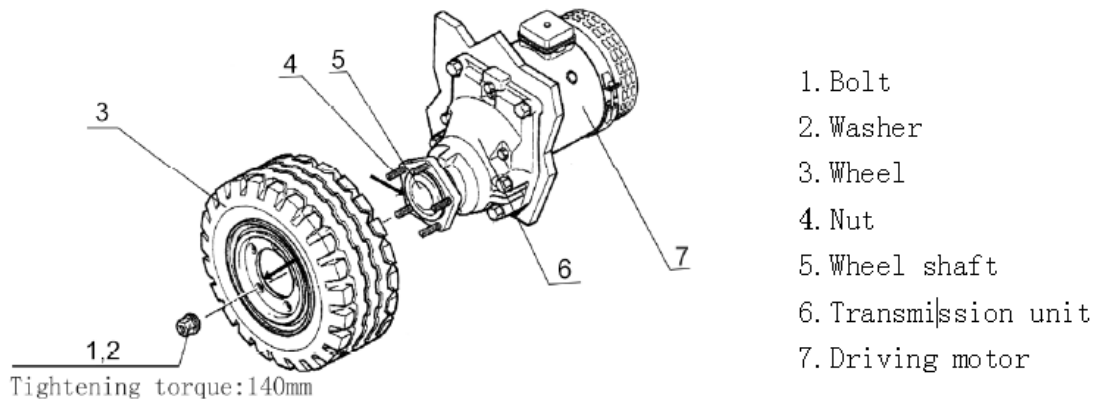

Figure 1-4
(1) Clean mating surfaces on wheel shaft and wheel thoroughly and check if it is damaged.
(3) Install hub nuts and tighten them. The tightening torque of it is 140Nm.(see Fig.1-4).